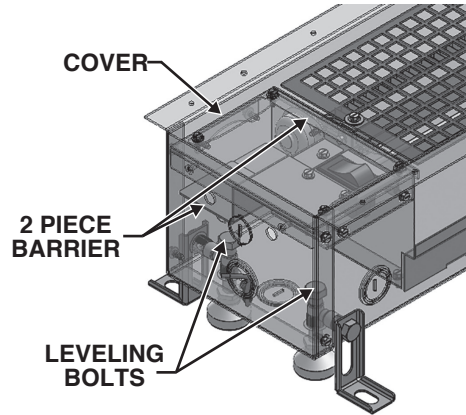

Figure 6A: Wiring Compartment Components
3. Remove construction cover, splash covers (see Fig. 6A & 6B) and protective barriers to access wiring compartments, as well as swivel leveling legs and adjust until unit is level and to proper height (if used).
4. Remove construction cover, splash covers (see Fig. 6A & 6B) and protective barriers to access wiring compartments.
4. Remove construction cover, splash covers (see Fig. 6A & 6B) and protective barriers to access wiring compartments, as well as swivel leveling legs and adjust until unit is level and to proper height